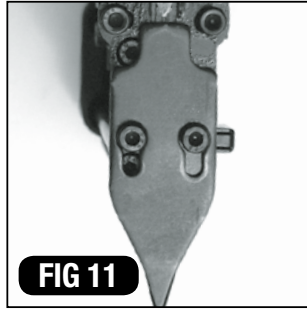

FIG 11
4. Slide cover down until the two large clearance holes line up with the two screw heads as shown in (Fig. 11).